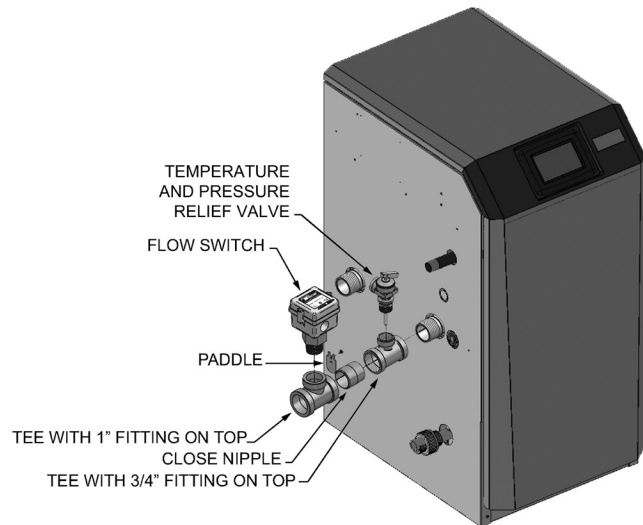

Figure 54. Flow Switch and T & P Relief Valve Installation
1. Install the tee with the 3/4 inch fitting positioned vertically and on the top as shown in Figure 54.
2. Install the T & P Relief Valve into the 3/4 inch fitting of the tee installed in Step 1 (Figure 54).
3. Install the close nipple on the downstream side of the temperature and pressure relief valve tee (Figure 54).
4. Install the tee with the 1 inch fitting positioned vertically and on the top (Figure 54).
6. Install the assembled flow switch into the 1 inch fitting of the tee installed in Step 4 (see Figure 54).